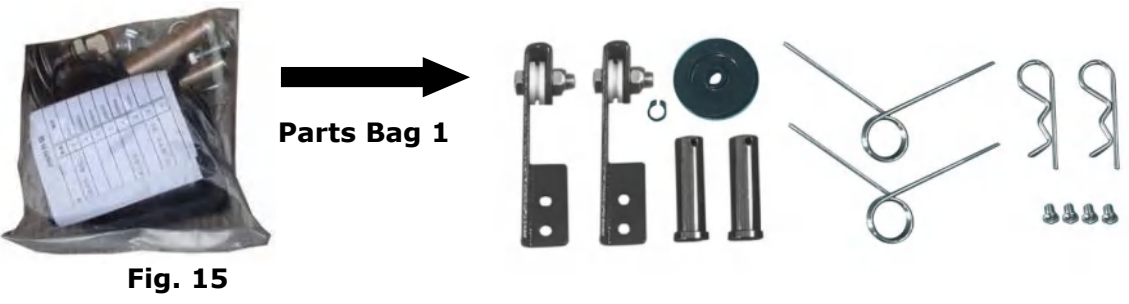

Fig. 15
5. Open the parts bag 1 and check the parts according to parts box list **(See Fig. 15).**